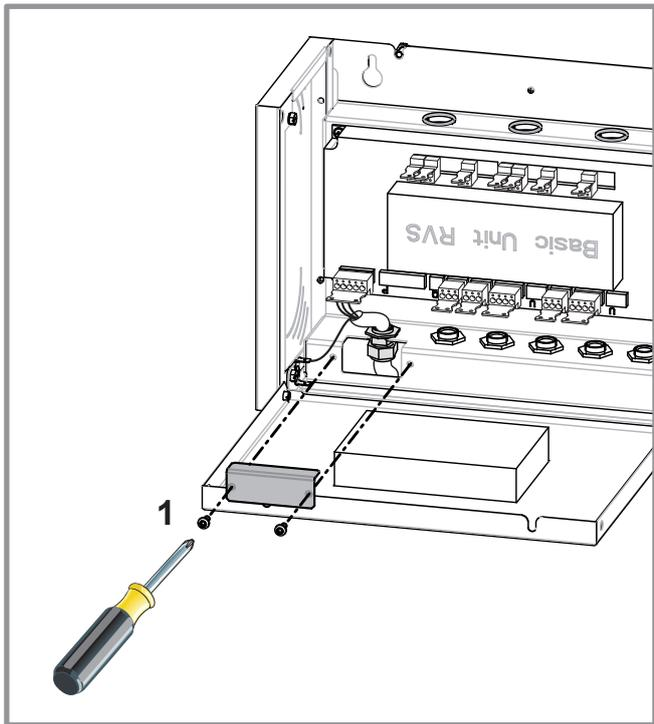

figure 20 - Chartreuse, Vanoise
- Fixer la plaquette fournie figure 20, (rep. 1).